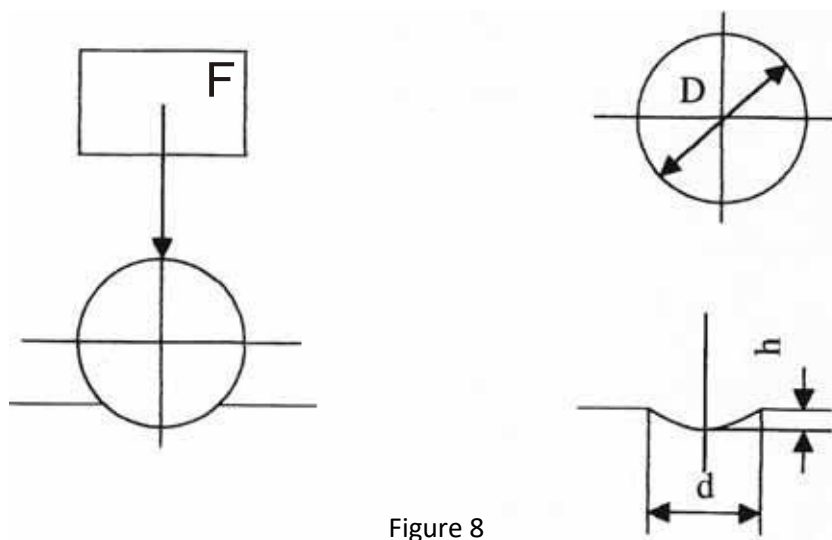

Figure 8
5.1 Brinell hardness test is to use a certain diameter of the indenter, with the specified test force pressed into the surface of the object under test, hold for a specified period of time, remove the test force, with a readout microscope to measure the diameter of the indentation on the surface of the specimen, the calculation of the indentation of the spherical surface area of the average pressure borne by the pressure (N/mm²), i.e., the value of Brinell hardness (Figure 8).